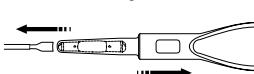

Fig. 15
9. Slowly pull the ICL or TICL into the barrel while moving the Cartridge in the opposite direction. Observe the ICL or TICL positioning marks on either side of the optic to confirm alignment as you advance the ICL or TICL. Continue this process until the ICL or TICL is positioned within the Cartridge so that its leading edge is adjacent to the end of the Cartridge. Release the ICL or TICL and remove the forceps. (Fig. 15)